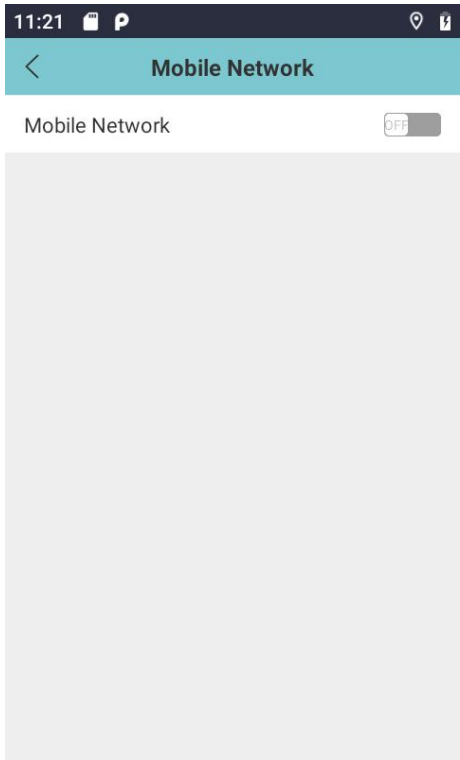

Figure 6.98
- 1) Mobile Network: Tap “Mobile Network” to enter the mobile network settings interface, as shown in Figure 6.98. Enable or disable the mobile network connection using the toggle switch. Mobile connectivity is handled in a manner similar to Android smartphones.